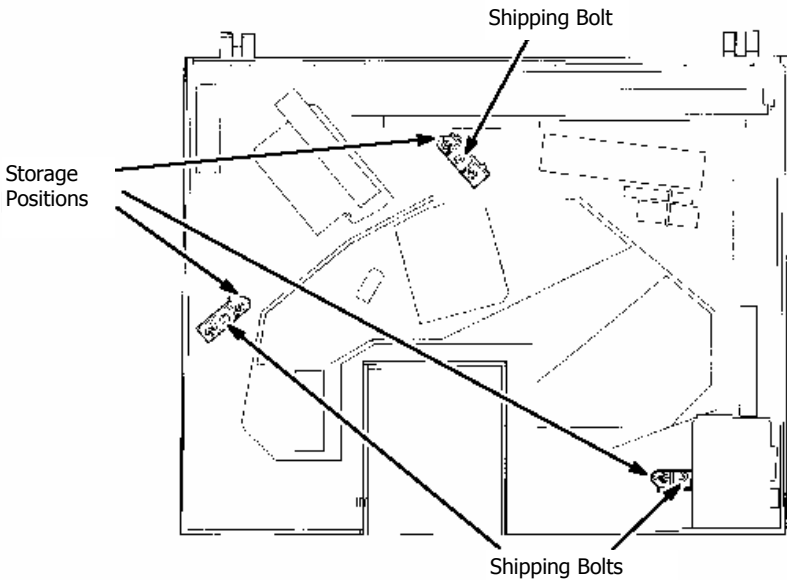
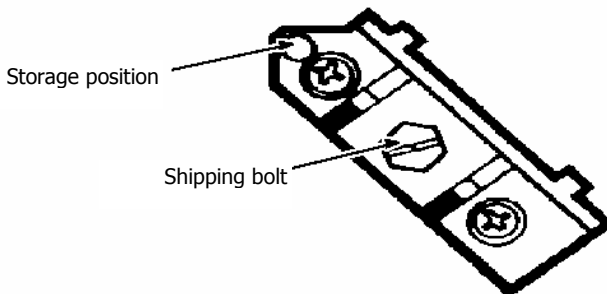

Figure 3 Locations of the shipping bolt
Figure 4 Shipping Bolt and Storage Position
- Using the flat blade screwdriver supplied, remove each of the shipping bolts from the centers of the three positions indicated in Figure 3. When you remove each bolt, place it in its storage position, as shown in Figure 3 and Figure 4.